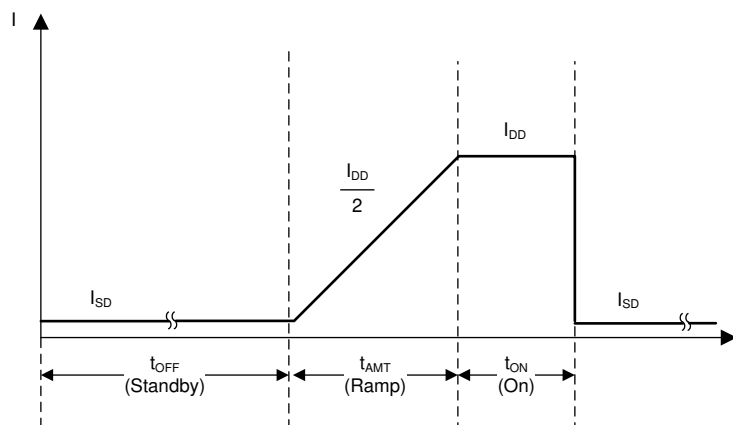

图 7-7. LDC0851 Supply Current vs. Time During Duty Cycle Operation
In order to achieve 10 year lifetime out of a single CR2032 battery, the enable pin (EN) of the LDC0851 can be duty cycled to achieve a low average supply current. Refer to 图 7-7 to see the three different states of LDC0851 supply current during duty cycle operation. The sum of the Standby, Ramp, and On currents can be used to calculate the average supply current of the LDC0851, which needs to be below 2.5 μA to achieve a 10 year lifetime from a 220 mAh CR2032 battery.